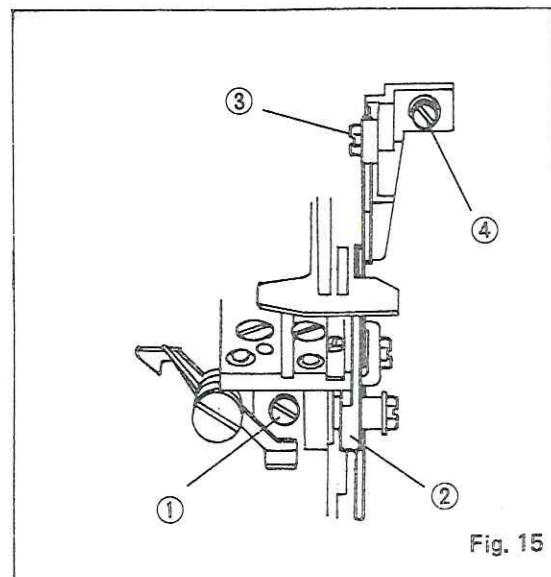

Fig. 15
- Désserrer la vis ① pour retourner le support couteau à sa nouvelle position puis essayer la coupe des couteaux.
(3) Seam Width Adjustment Fig. 15
- Loosen Screw ① and push the Lower knife Holder to the left then slightly tighten Screw ① .
- Loosen Screw ④ and push the Upper Knife clamp to left or right until the desired seam width is obtained then tighten Screw ④ .
- Loosen Screw ④ for returning the Lower Knife Holder to the new position. Then test the cutting of knives.
Ajuste del ancho de costura. Fig. 15
Reglage de la largeur du surjet Fig. 15